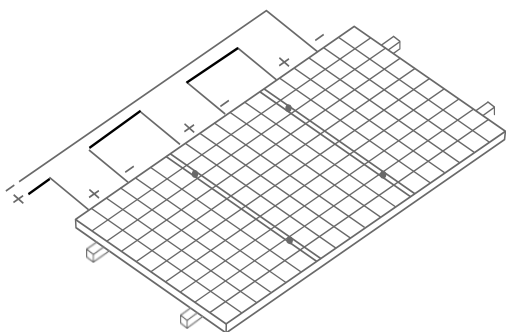

Figure 20 Connection in Series
- It is not allowed to use the Module in different models in the same solar photovoltaic system. When the Module are connected in series, the voltage of every string shall not be higher than the maximum voltage of the system (as shown in Figure 20). Please refer to the country's or local regulations for details.